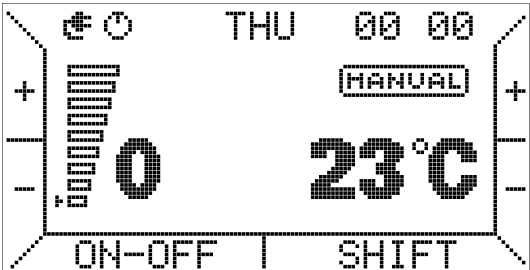

Figure 4: display in "ON" status
When the control system is on (ON), the display typically looks as shown in Figure 4. In this case, all keys are enabled and you can easily understand that the left side keys adjust the stove power level, which can vary from 0 to 9 and is displayed by means of a number and a level bar, whereas the right side keys adjust the room temperature; the set temperature appears blinking when you press these keys, while the display normally shows the currently detected room temperature.
Additional elements can be displayed to inform the user about the system status. If you have selected the configuration with automatic auto-off when exceeding the room thermal differential, a small icon with the symbol "Off" will appear. If the internal clock has been adjusted, the day of the week and the current time will also be shown, as you can see on the top of Figure 4.